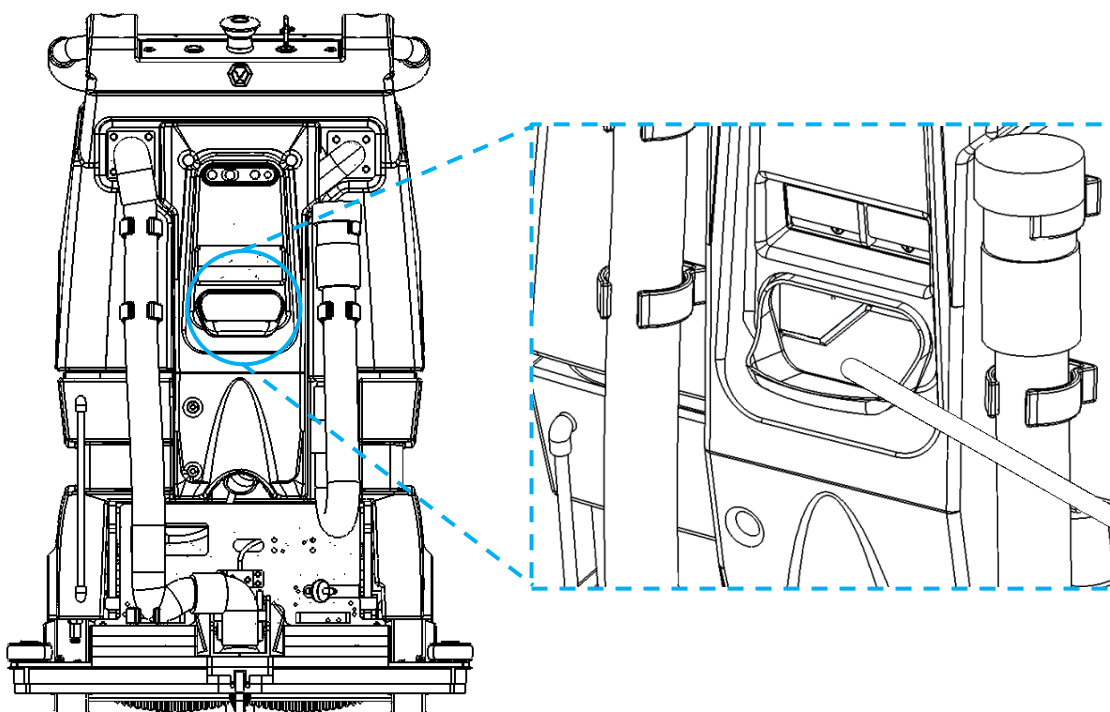

Fig. 2
4. Place the other end of the hose into the clean water inlet and flush the clean water tank by filling it with water (Fig 2).